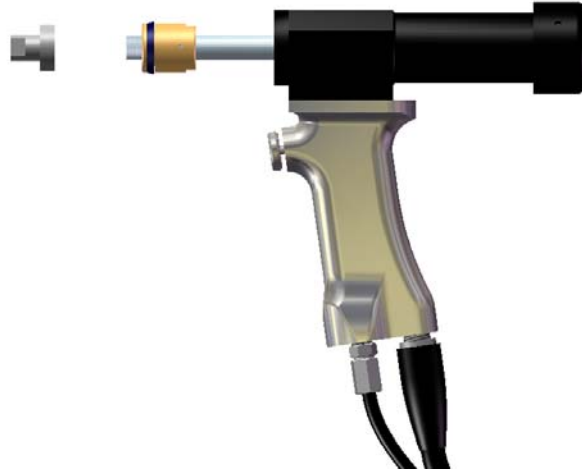

Figure 4-3
- Remove mandrel adapter from piston rod (Figure 4-3).